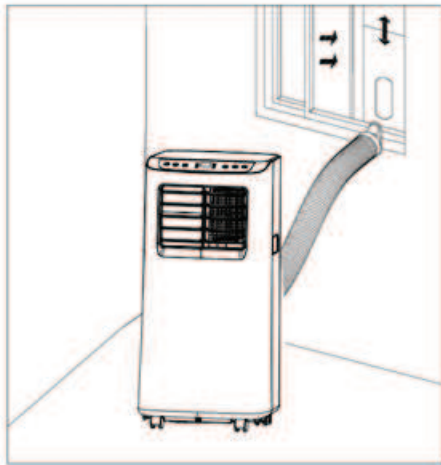
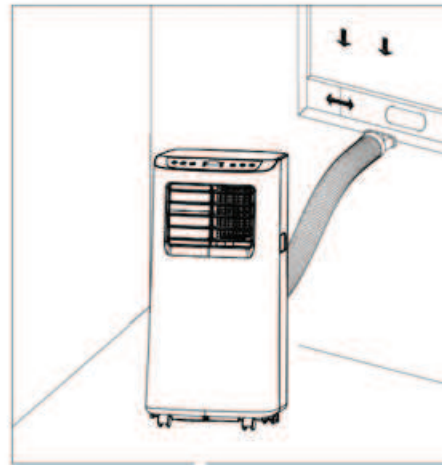

Fig. 5
Fig. 6
2) Elongate the exhaust pipe and snap the flat end of the exhaust pipe joints into the hole of the window sealing plate assembly (as shown in Fig.5 and Fig.6) .